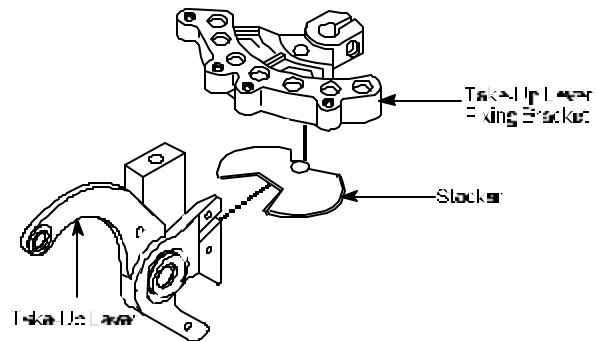

*Figure 6*
12. **Replace and Align** Take-Up Lever to Take-Up Driving Roller. See *Figure 6*.